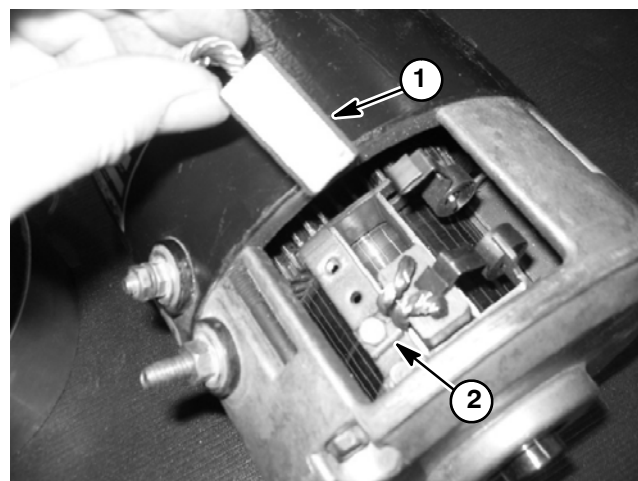

Figure 48
6. If vehicle is often operated in severely dirty environments, brush should be removed from motor to allow inspection of mating surface of brush (Fig. 48). If brush surface is rough, pitted, arced or scored, additional brush and/or motor inspection should be completed (see Traction Motor and Traction Motor Service in this section).